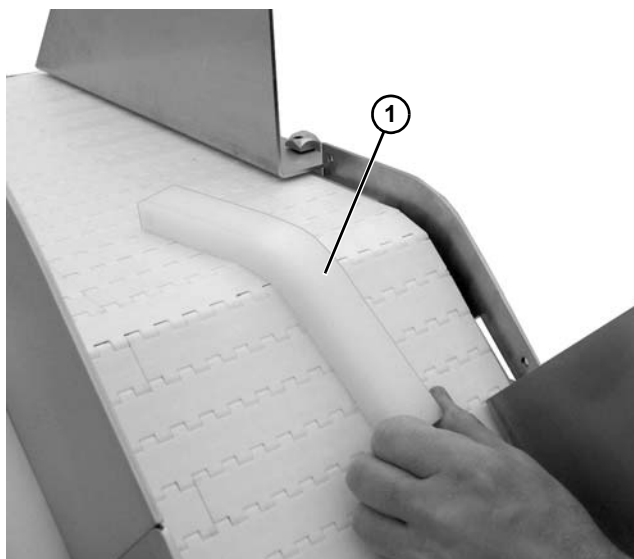

Figure 106
2. Remove wear bar (**Figure 106, item 1**).